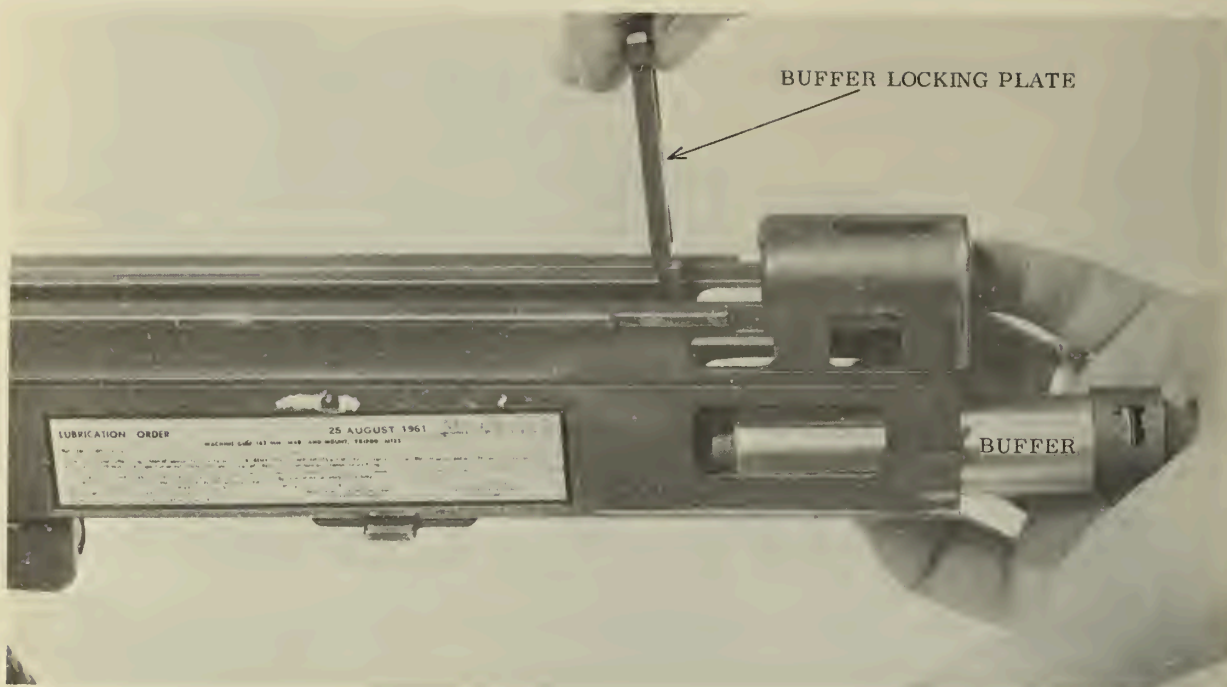
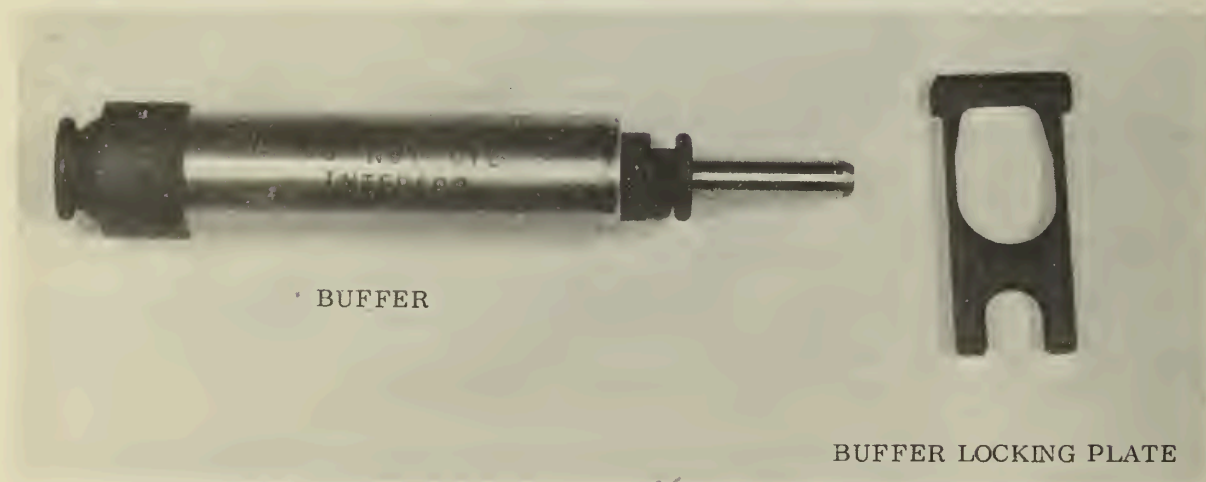

Figure 6. --Removing the Buffer Locking Plate.
Figure 7. --The Buffer Group.
(1) Hold the palm of the hand against the rear of the exposed buffer and press forward lightly. (See fig. 6.)
(2) Remove the buffer locking plate from its recess in the top of the receiver. (See fig. 6.)
(3) Remove the buffer slowly to the rear. This allows the operating rod drive spring to expand until the head of the operating rod drive spring is exposed at the rear of the receiver.
(4) The buffer group consists of the buffer and the buffer locking plate. (See fig. 7.)
(5) Only qualified ordnance personnel are authorized to perform further disassembly of this group.